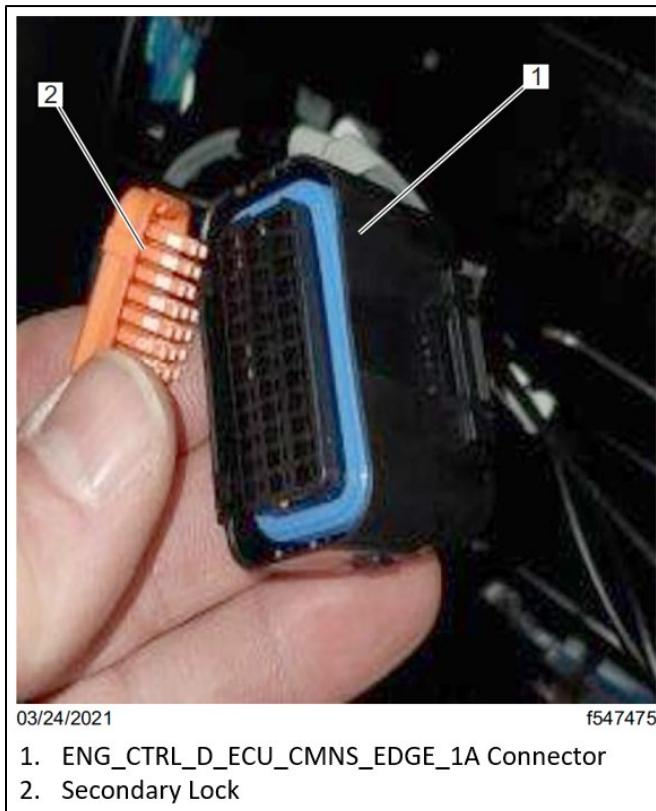

Fig. 8, ENG_CTRL_D_ECU_CMNS_EDGE_1A Connector
- 13.1 Using Delphi tool DKIOCHA17002-1, or a small screwdriver, or any similar tool, remove the orange secondary lock. See **Fig. 8**.
13.3 Install the orange secondary lock. See **Fig. 8**.